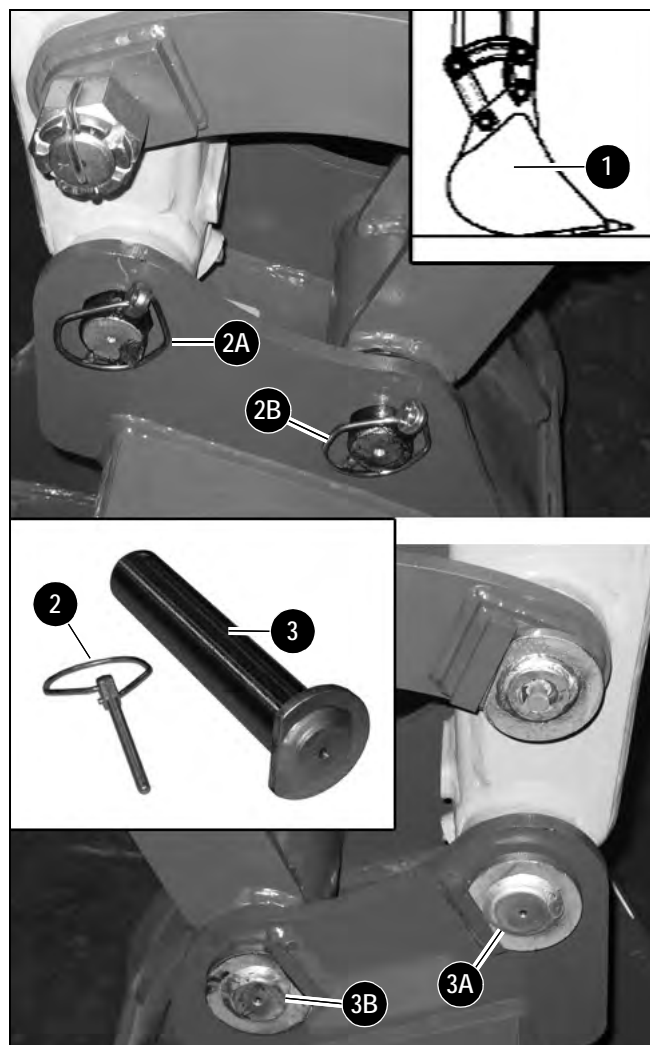

Figure 3-36 Bucket Removal/Mounting
1. Lower the bucket to the ground with the flat side facing down (1, Figure 3-36).
3. Remove the two lynch pins (2A and 2B, Figure 3-36).
4. Remove the lower securing pin first (3B, Figure 3-36) and then the other (3A). Carefully remove the pins with a hammer and brass punch if they are stuck. Once pin 3B is removed, pin 3A might have more pressure applied against it, making it difficult to remove. If this happens:
4. Insert the upper securing pin first (3A, Figure 3-36). If needed, use a hammer and brass punch to gently tap the pin through the hole. Insert a lynch pin (2A, Figure 3-36) through the hole in the pin and lock.
5. Insert the lower securing pin (3B, Figure 3-36). If needed, use a hammer and brass punch to gently tap the pin through the hole. Insert a lynch pin (2B, Figure 3-36) through the hole in the pin. Lock the lynch pin securely in place.